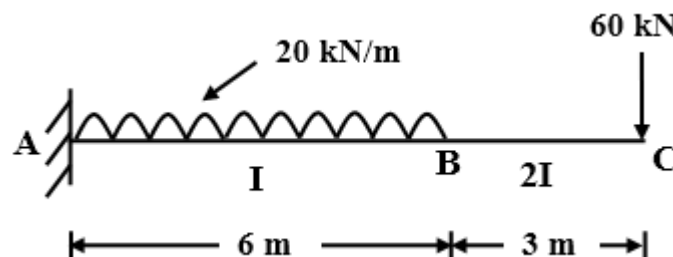

Figure 6 [Q-5 (c)]
- c) Calculate the slope and deflection at free end of cantilever beam shown in **figure 6** by conjugate beam method. Take $E = 2 \times 10^5 \text{ N/mm}^2$ and $I = 4 \times 10^5 \text{ m}^4$.